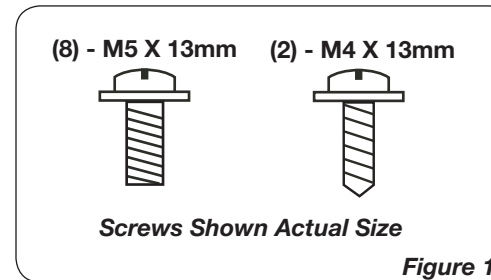
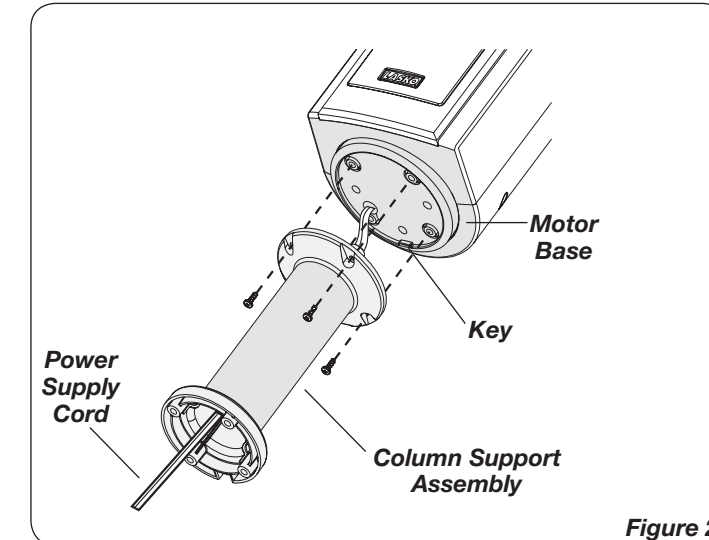

Figure 1
Figure 2
### ASSEMBLY (Figures 1 through 6)
2. Attach the **Column Support Assembly** to the **Motor Base** with (4) M5 X 13mm Screws. Make certain to align the **Key** on the **Motor Base** with the **Locating Notch** on the **Column Support Assembly**. (Figure 2)
OPERATION (Figure 1 and 2)
The Heater may be operated by the manual controls located on the Heater (as shown in *Figure 1*) or by your remote control (shown in *Figure 2*).
TIMER FUNCTION (Figure 2)
REMOTE CONTROL (Figure 2)